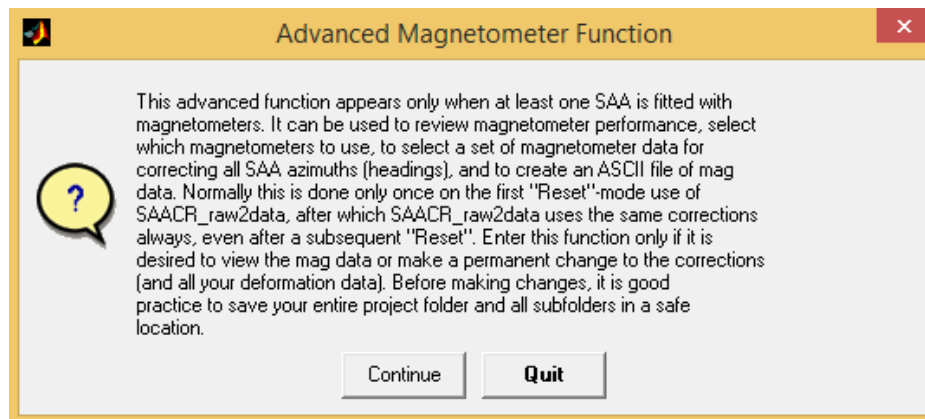

Figure 5.25: The notice appears on the first run through SAACR_raw2data when a mag is present.
4. The notice in **Figure 5.25** will appear.